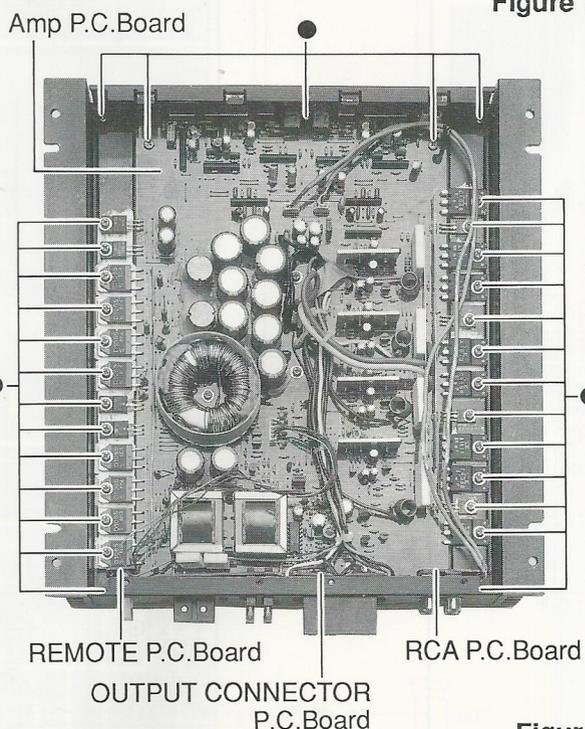

Figure 2
- (1) After removal of the Bottom Cover, remove 31 screws marked "●". Then, the Amp P.C.Board will be removed from heat tank together with Rear Chassis and RCA, Output Connector and Power P.C.Board as shown in Figure 2.